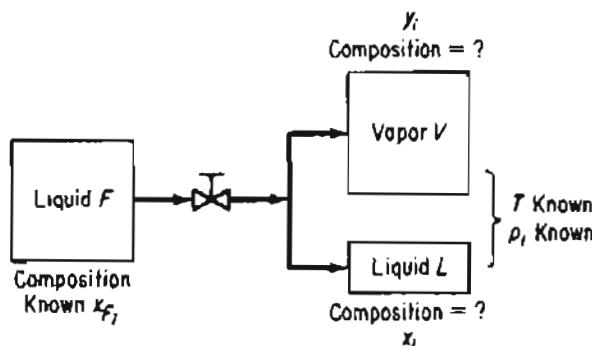

Figure 19.9 Flash vaporization with vapor and liquid in equilibrium.
- To calculate the amount of the respective vapor and liquid phases that evolve at equilibrium when a liquid of known composition x_{F_i} flashes (flash vaporization) at a known temperature and pressure, you use Equation (19.5a) together with a material balance. Figure 19.9 illustrates the open, steady-state process.